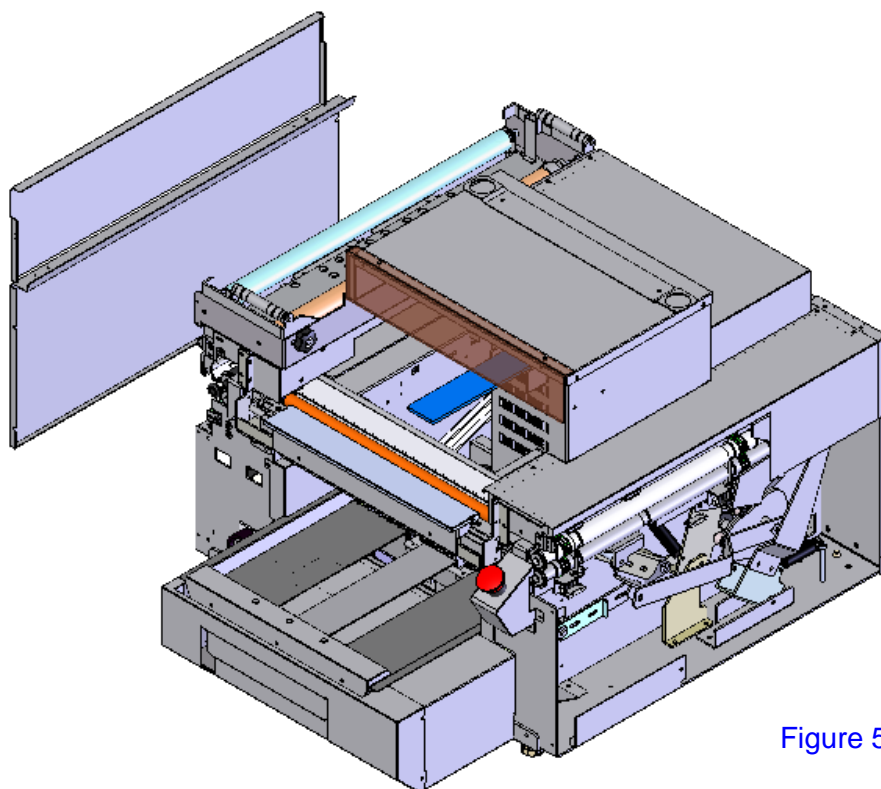

Figure 5.
10. Remove the left side cover (loosen four screws). See Figure 5.